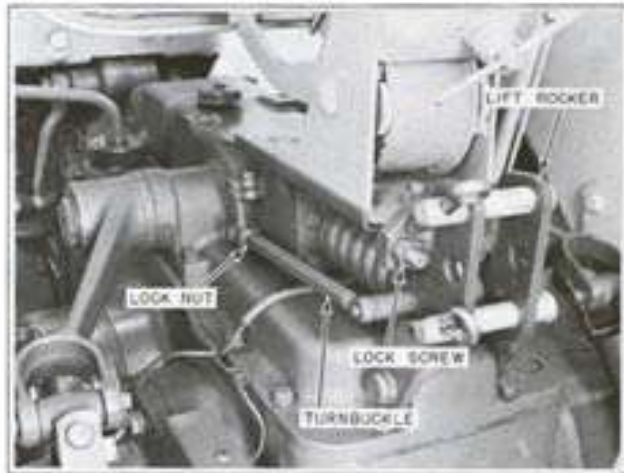

Figure 10-13 Draft Control External Linkage
creasing the draft. (See Figure 10-13.) As the ground becomes softer the draft will decrease and the control linkage will react in the opposite direction allowing the implement to lower again. The small amount of movement up or down is regulated by the automatic position control linkage within the unit.
With the usage of a variety of implements which are adaptable to your 550 tractor, it may be desirable to regulate the sensitivity of the automatic draft control by changing the position of the upper link in the lift rocker. (See Figure 10-13.) The upper hole makes the automatic draft control most sensitive to increased draft and the lower hole makes it least sensitive to increased draft. When using a three bottom plow do not use the lower hole in the lift rocker as extreme pressure is imposed on the hydraulic unit during the lift cycle.
Where position control only is desired such as with implements that require a fixed drawbar, it is possible to lock out the draft control. This is done by turning the two screws in the lift rocker out and against the seat bracket and by locking the screws in this position with the jam nuts. (See Figure 10-13.) With the draft control locked out, the position control tends to keep the lower links at the selected level set by the hand control lever.
4. To decrease the free play of the lift arms, loosen the nut on the external link. Turn the turnbuckle in a counterclockwise direction. (See Figure 10-13.) This will lengthen the outer linkage and raise the lower links. To increase the free play, reverse this procedure. Tighten the lock nut.